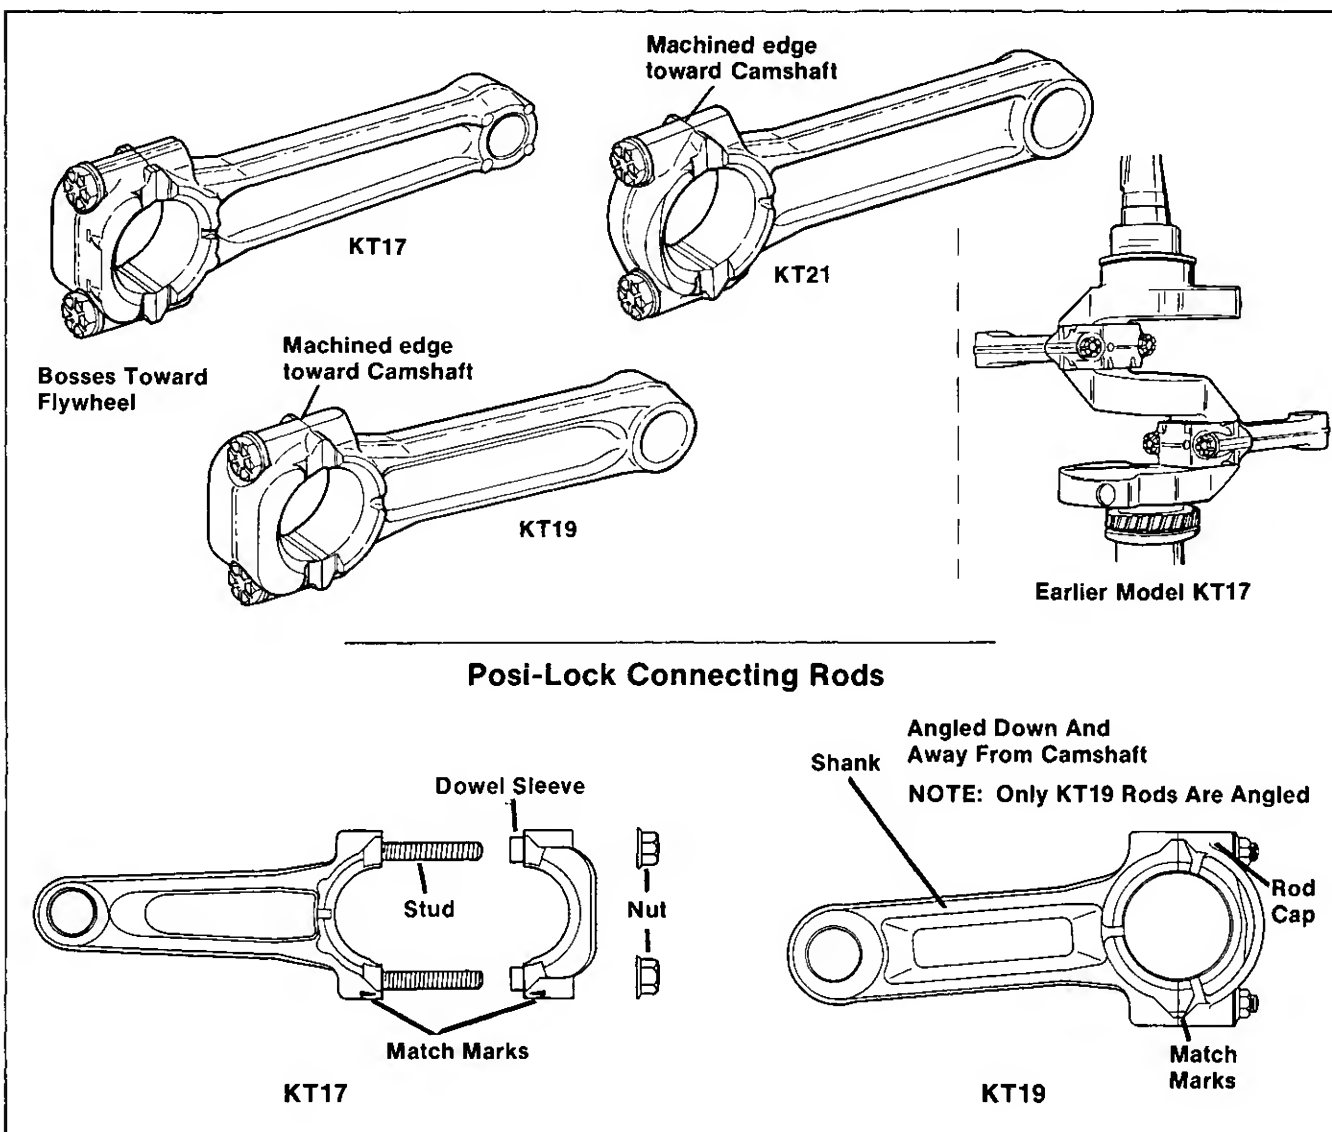

Figure 8-5. Note Differences In Connecting Rod Design
2. KT19 connecting rods have an angled design with respect to the shank and the rod cap. Install KT19 rods to crankshaft with the shank angled down and away from the camshaft. See Figure 8-5.